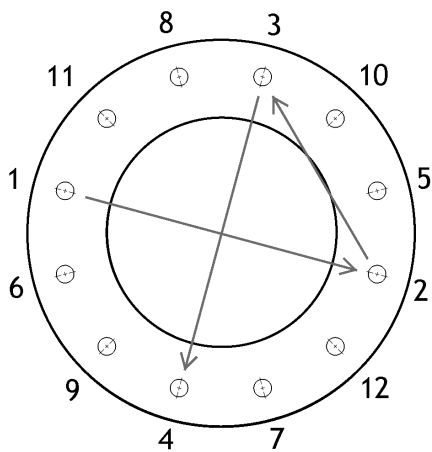

Figure 7. Flange bolt tightening example.
3. Tighten the flange bolts evenly in a crosswise sequence as shown in Figure 7. Flange bolt tightening example. Recommended compression for the rubber sleeve flange is shown in PN10 flange bolt nominal diameter and